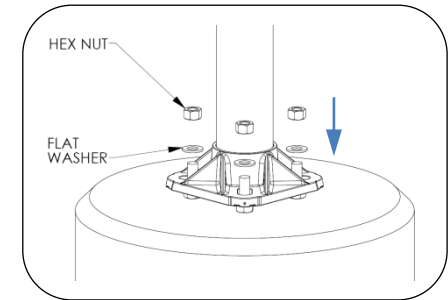

Fig. 5 – Install pole
2. Install washer and hex nut as shown in Fig. 5.